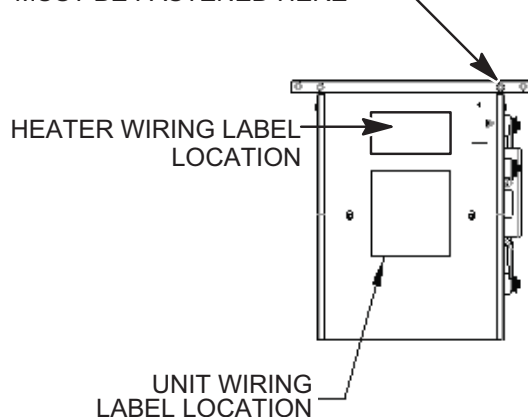

Fig. 2 – Motor Ground and Wire Label Location
16. Connect all motor leads or motor plugs and grounding wire if applicable. (See Fig. 2 for ground wire location)
17. Install the two new wiring labels (unit and heater) see location shown in Fig. 2. To identify the correct labels match the unit model number form Table 1 to the respective label part numbers found in parts bag supplied with the kit.